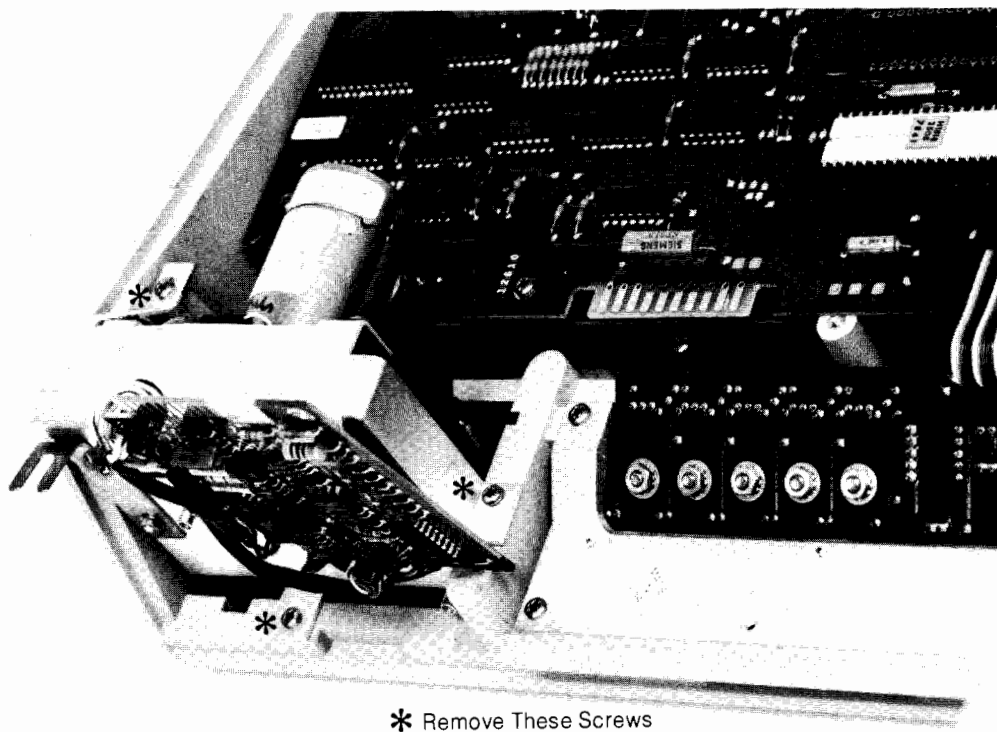

Figure 2-9 Tape Transport Assembly Removal
2. Carefully move the analog board so that the screw underneath it can be removed. Figure 2-9 shows the analog board rotated 90 degrees to give access to the lower screw.